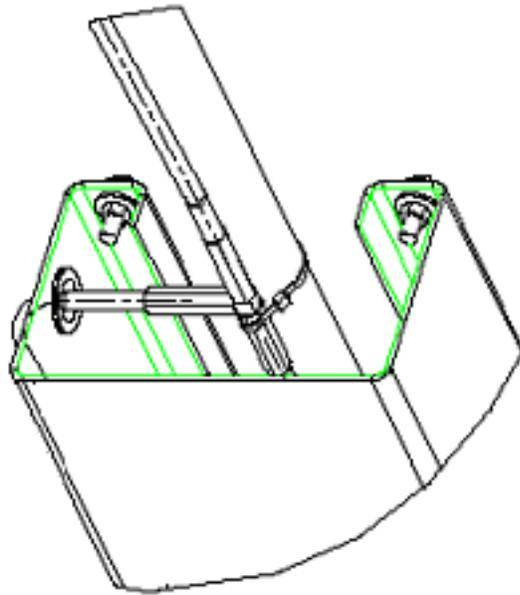

Figure 14
- D. To prevent the carriages from rubbing the hoses, pull the hoses upward taking out any slack between the cylinder fitting port and the cylinder mount. Secure the hoses to the mainside cylinder with a wire tie around the tee and the cylinder. The tee should be positioned to aim directly out through the grommet, figure 14. Secure the hose to the offside cylinder at approximately the same height with a wire tie.